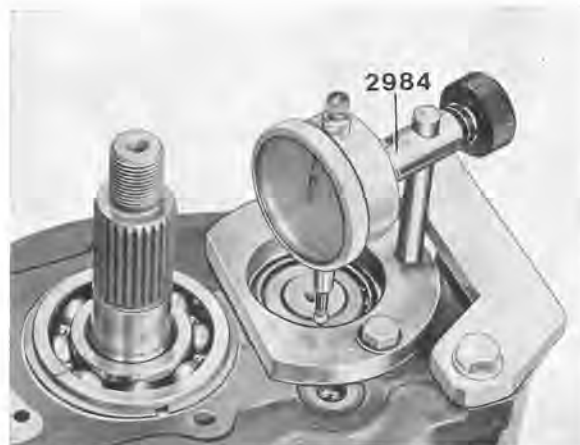

Fig. 4-33. Measuring axial clearance
8. Turn the gearbox with the rear end upwards. Fit the gasket and place a 0.7 mm (0.028") shim on the rear bearing outer ring. Fix the measuring stand 2984 with two bolts as shown in Fig. 4-33. Mark up and place the dial indicator with the measuring point facing the inner ring.